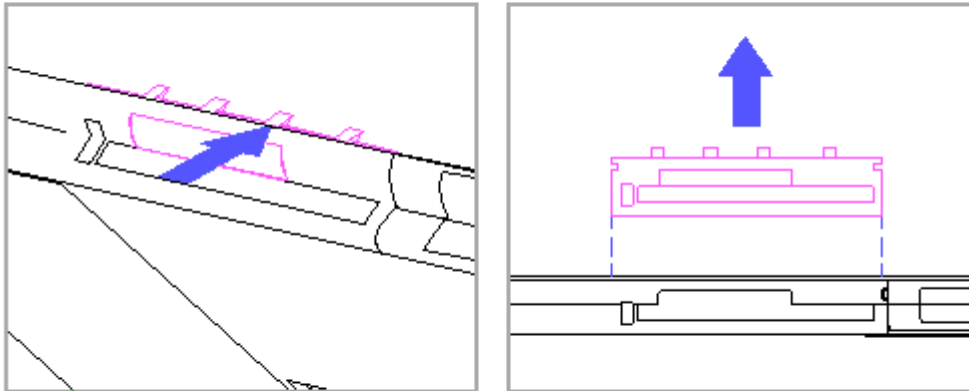

Figure 3-25. Removing the Diskette Drive Bezel
4. Remove the diskette drive bezel by pushing it toward the inside of the back cover and then sliding it up and out of the cover (Figure 3-25).